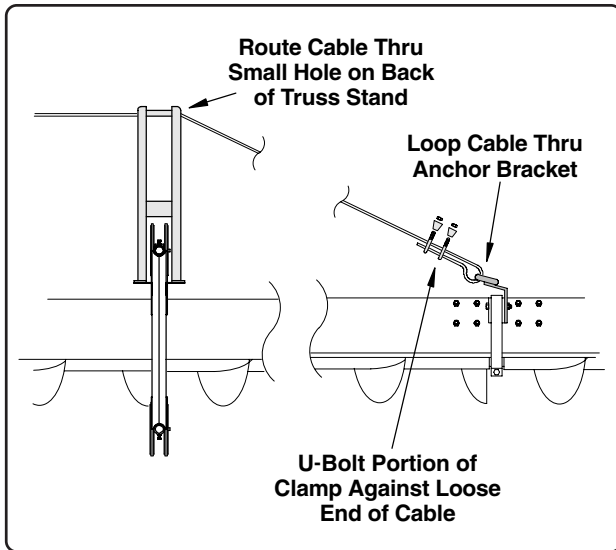

Fig. 19
1. Attach one end of the cable to the loop on the cable anchor bracket previously installed at the sweep shield splice (See Fig. 19). Secure the cable using two 5/16" cable clamps.